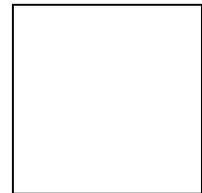

Figure 14
- The inboard tool rest can now be installed in its holder as shown in Figure 14. Once set in place lock it using the handle A.